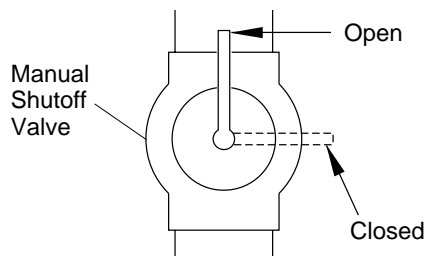

Figure 23 - Manual Shutoff Valve
1. Close manual shutoff valve (see Figure 23).
1. Open manual shutoff valve (see Figure 23).